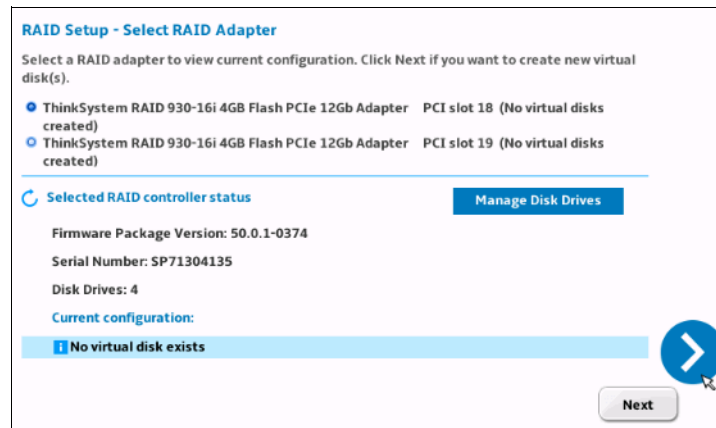

Figure 5-16 Create virtual disks
6. LXPM will take you back to the RAID Setup screen. Click **Next** as shown in Figure 5-16 to create an array(s) from the disks.